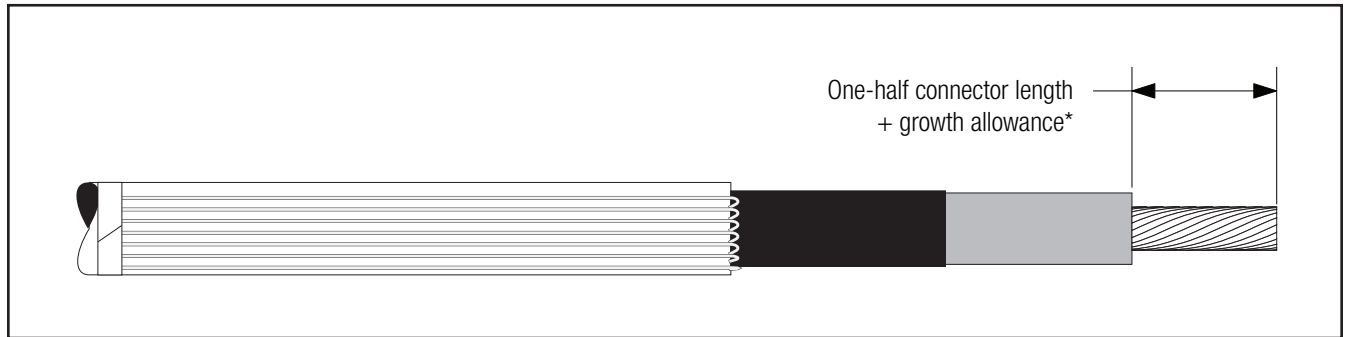

Figure 10
**3.3 If using a crimp type connector,** remove cable insulation for 1/2 connector length plus an allowance\* for increases in connector length due to crimping. Insulation removal length shall not exceed 4 1/8" (105 mm) from conductor end. **Do not install connector now** (Figure 10).